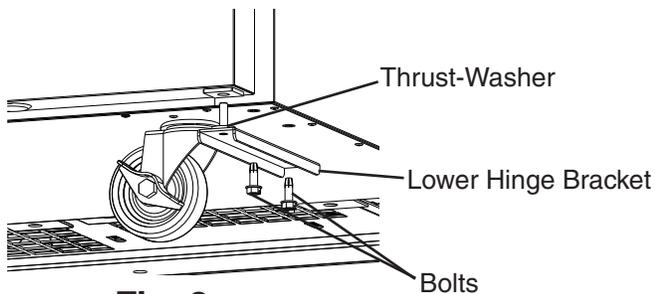

Fig. 8
- 4) While maintaining a hold on the door, remove the lower hinge bracket. See Fig. 8. Leave the thrust-washer in place.